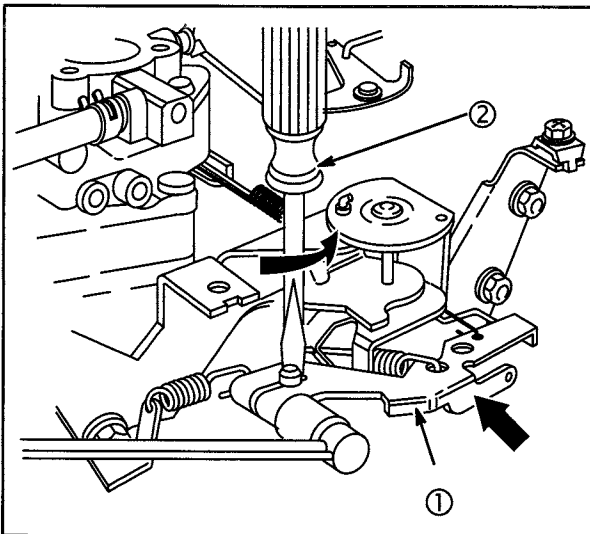

Fig. 30
1. Loosen governor lever nut. Push on governor lever (1) until throttle is wide open, Fig. 30.